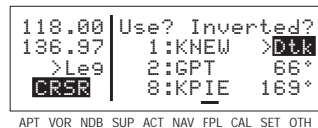

Figure 4-103
2. Press **CLR**. The cyclic field will change to magnetic desired track (**Dtk**) (figure 4-103). An additional **CLR** press cycles back to **Dis**.